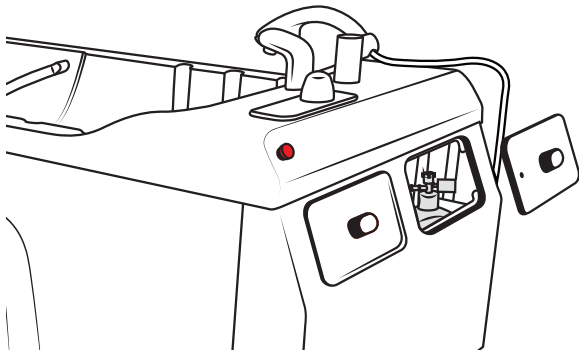

Fig. 25
2. Unlock and remove the disinfection cover. See Fig. 25.